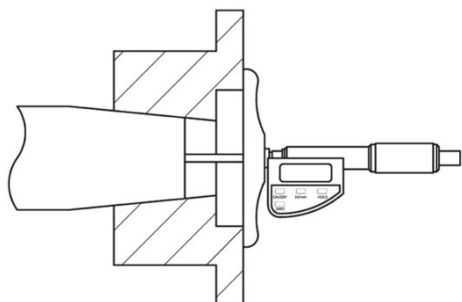

Figure 4 – Shaft end to hub face measurement example.
- 8.4. Use a depth micrometer to measure the distance from the shaft end to the hub face, as shown in Figure 4. Record the dimension.